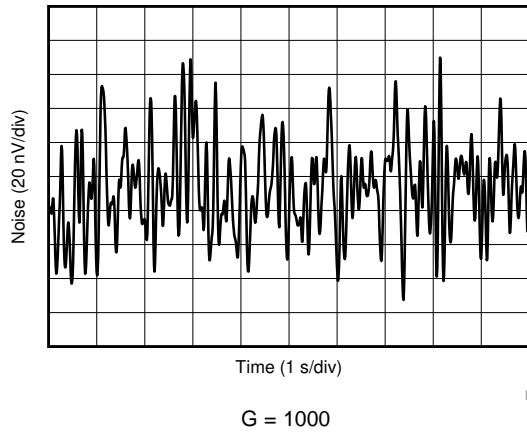

Figure 25. 0.1-Hz to 10-Hz RTI Voltage Noise, G = 1000
0.1-Hz to 10-Hz RTI Voltage Noise, $G = 1000$	Figure 25